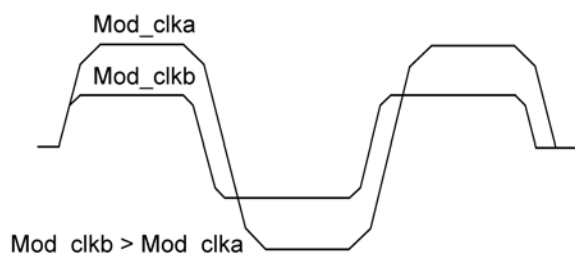

Figure 20. Two Different Modulator Clock Settings
Having $f_{\text{MOD_CLK}}$ set at 8 times the bit rate corresponds to a baseband data signal filtered in a Gaussian filter with a bandwidth-period product (BT) of 1. When BT is increased, the waveform will be less filtered. Figure 20 shows two waveforms with BT=1 (the minimum, with $f_{\text{MOD_CLK}}$ at 8 times the bitrate) and BT=2 (with $f_{\text{MOD_CLK}}$ at 16 times the bit rate). Changing BT changes the charge-and discharge times and therefore the frequency deviation, as seen in Figure 20.